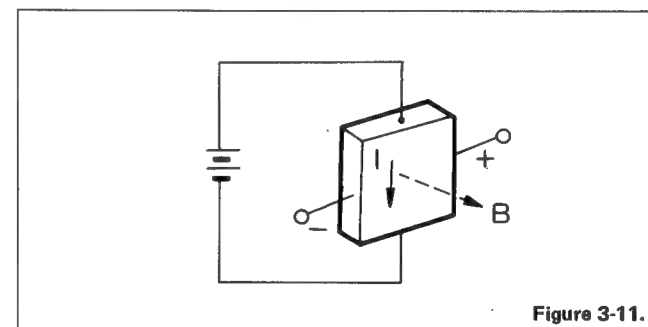

Figure 3-11.
As the rotor rotates some 30° , Tr5 turns off and Tr6 on. Now the rotating magnetic field of the stator has rotated 60° and appears as (2). The rotor therefore rotates in the direction of arrow to the position of (3). Thus transistors' switching and rotation of the rotor continue. This is the operating principle of the brushless motor. Actually when used as a direct-drive motor, it has more poles to cope with variation of speed due to torque variation and to remove caking due to low speed, and it is given larger torque and inertia to improve efficiency and stability of speed. This is realized by the out rotor having a large diameter. The brushless motor actually used has a 3-phase, 4-coil, 8-pole-core out rotor (See Figure 3-10.) The position of the rotor is detected by three Hall devices and an ICI704) switches motor coil current depending on the output of the Hall devices to control rotation. The Hall device is a metal or semiconductor chip made to detect magnetic field. If magnetic field B is applied to a semiconductor through which current I is flowing (see Figure 3-11), a voltage develops in the direction which is perpendicular to both the current and the magnetic field. The voltage is proportional to the intensity of magnetic field B and the direction of the voltage is determined by the direction of the magnetic field. This is called the Hall effect and this is made use of to detect the position of the rotor.